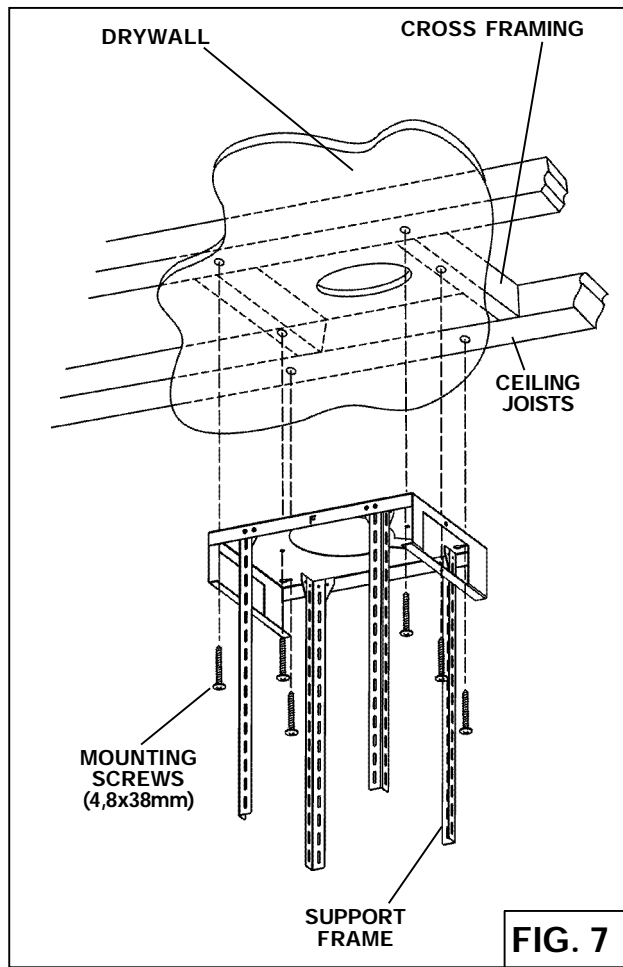

FIG. 7
3. Adjust the overall height using the chart below of the support frame. Loosen and re-tighten the 4 screws in the **height adjustment slots** as necessary. Insert 12 screws (3.9x6mm) (Fig.7). Make sure this a 4" min. overlap between the upper & lower support legs.
4. Secure the support frame to joists and cross framing with six (6) screws provided (4,8x38mm). Make sure screws are driven into center of joists and framing for maximum strength.